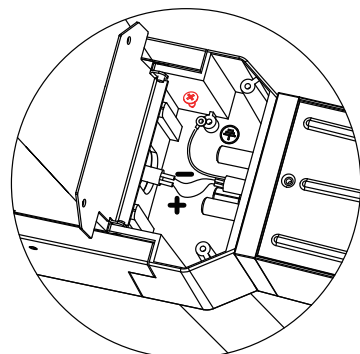

Fig.6
**Step 5:** Please connect the wires according to the wiring diagram in the installation manual of the LFXU light fixture. After completing the wiring, please close the wiring cover. Then take two M4×10 pan head Phillips screws from the universal screw kit and fasten the wiring cover securely. See fig. 6 & 7